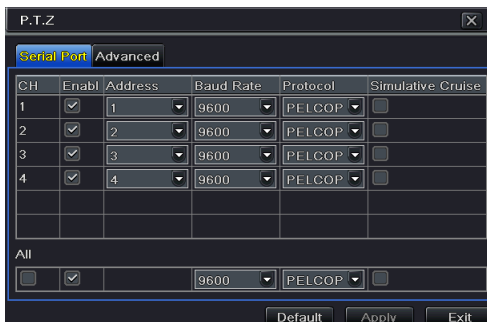

Fig 4-30 P.T.Z Configuration-Serial Port
Step 1: Enter into Menu→Setup → P.T.Z →Serial Port interface. Refer to Fig 4-30: